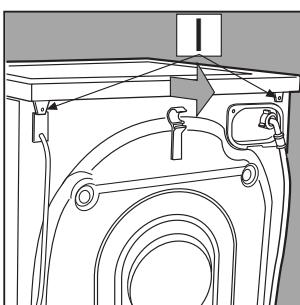

Fig. 3
- Remove the covering lid by unscrewing the two screws **I**, and then pull it towards you [fig. 3].